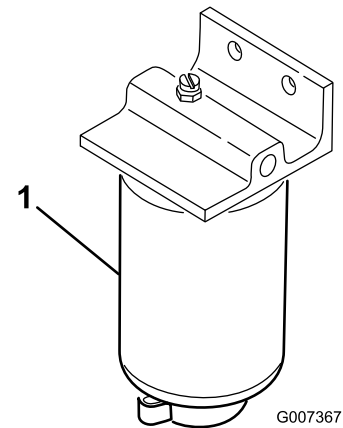

Figure 35
3. Open the drain plug on the fuel filter approximately one turn and drain any accumulated water (Figure 35).